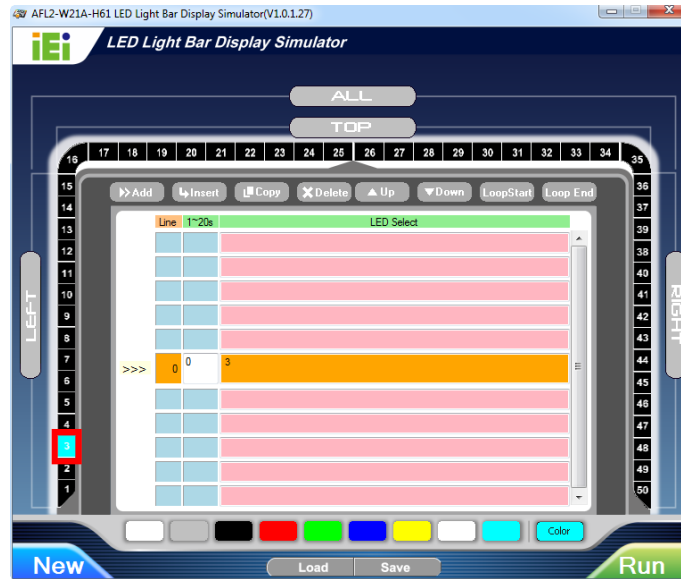

Figure 2-8: Simulate the LED Light
Step 16: After setting the color, click LED simulation button and the color of selected LED simulation button will automatically change. See **Figure 2-8**.